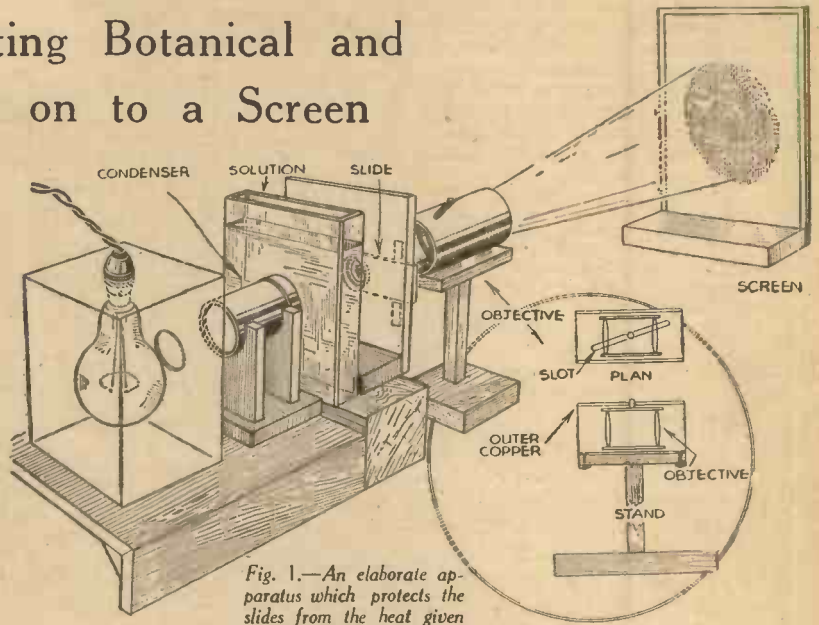

Fig. 1.—An elaborate apparatus which protects the slides from the heat given off by the lamp. Inset is shown the independent mounting for the objective.
An easy and perfectly satisfactory layout is shown in Fig. 1. The slide is held by elastic bands or strip springs against the side of a wooden box containing a 60-watt lamp, a hole being cut in the side of the box big enough to illuminate the slide. If available, a low power objective should be taken from a microscope and mounted on a wooden stand as shown in the illustration and the relative positions of lens and screen adjusted until a bright image is focused on the screen. The actual positions will depend on the objective employed. If an objective is not available, a substitute can be devised from two short focus convex lenses placed close together and preferably mounted as in Fig. 2, when light only passes through the centre of the lens system. A focal length of one inch is the most satisfactory. The wooden stand not only holds the lens system but also acts as a baffle, shielding the screen from stray light.
*A simple and perfectly satisfactory layout which is not so elaborate as that shown in Fig. 1.*